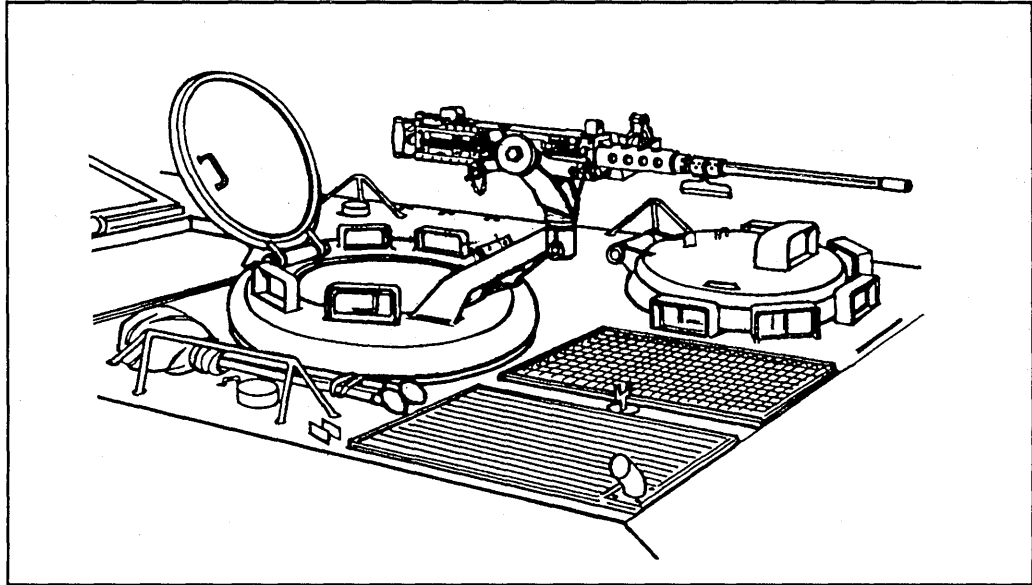

Figure 1-12. Cupola mount.
c. **Armored Vehicle Cupola Mount.** A caliber .50 machine gun and mount are installed in the gun support on the commander's cupola of an M113 armored personnel carrier. The machine gun can be traversed 360 degrees, elevated 53 degrees, and depressed 21 degrees maximum (Figure 1-12).